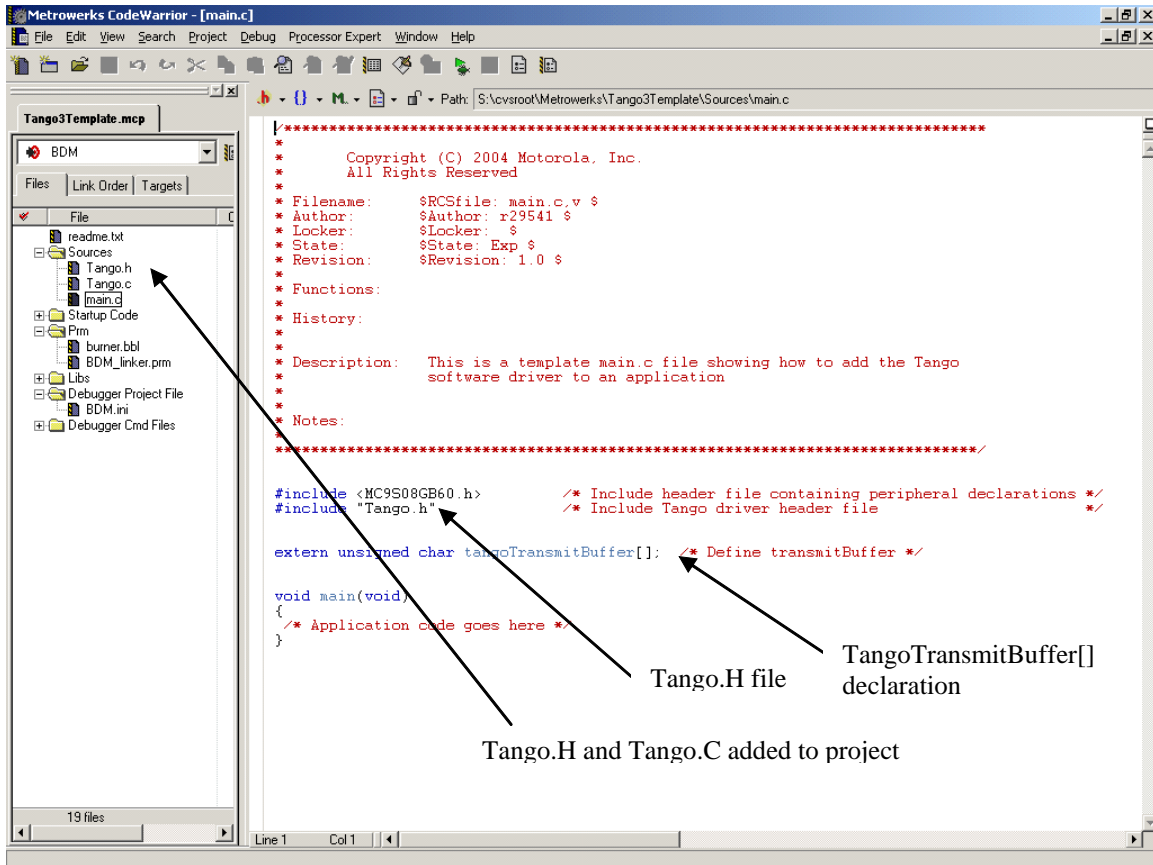

Figure 13. Application Template with Tango3 Files Included
**Figure 13** is a screen shot of an application template with Tango3 files included and showing the main application program file with correct entries added.